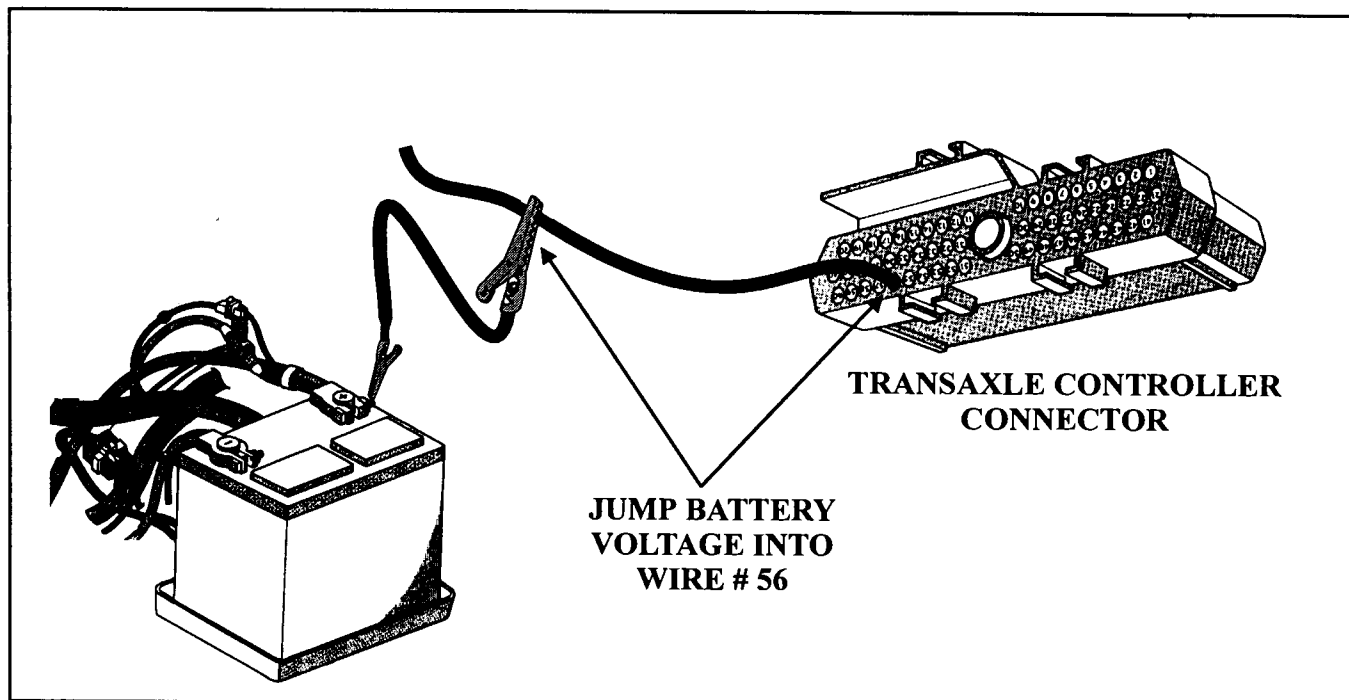

Figure 14
- CORRECTION:** First replace the EATX relay with a known good relay (Refere to pages 8-10 for relay location). If the problem remains, a quick method to verify a bad fuse or fusible wire is to locate wire 56 at the TCM. Carefully remove some of the insulation from the wire and connect battery voltage to the wire with a jumper wire (See Figure 14). Once connected, if all symptoms are removed, a defective fuse or fusible wire is the problem. To assist on locating the defective fusible link, all fusible links are color coded and can be found below and between the battery and driver side spring tower (See Figure 8). Refer to the chart in Figures 9 an 10 which cross references the fusible link color identification to the vehicle make and year.